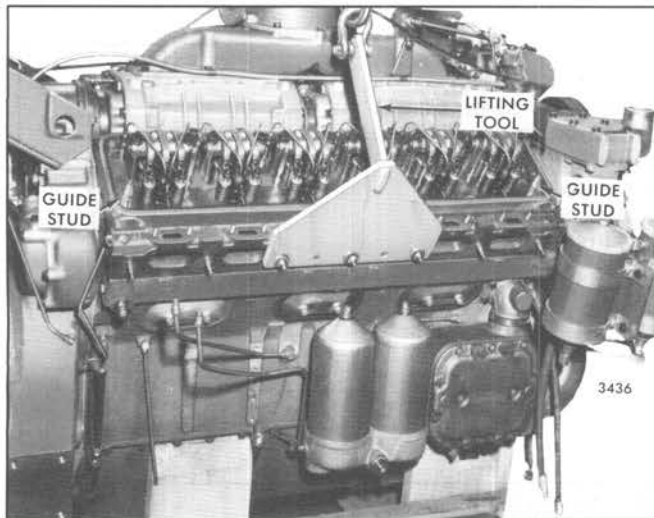

Fig. 6 – Removing or Installing Cylinder Head using Tool J 22062-01
14. Check the torque on the cylinder head bolts before removing the head. Then, remove the bolts and washers and lift the cylinder head from the cylinder block with tool J 22062-01 (Fig. 6). If interference is encountered between the rear end of the right-bank cylinder head and any of the flywheel attaching bolts, loosen the bolts. Checking the torque before removing the head bolts and examining the condition of the compression gaskets and seals after the head is removed may reveal the causes of any cylinder head problems.